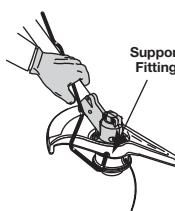

Fig. 9
- Hold the locking rod in place by grasping it next to the boom of the unit (Fig. 9).